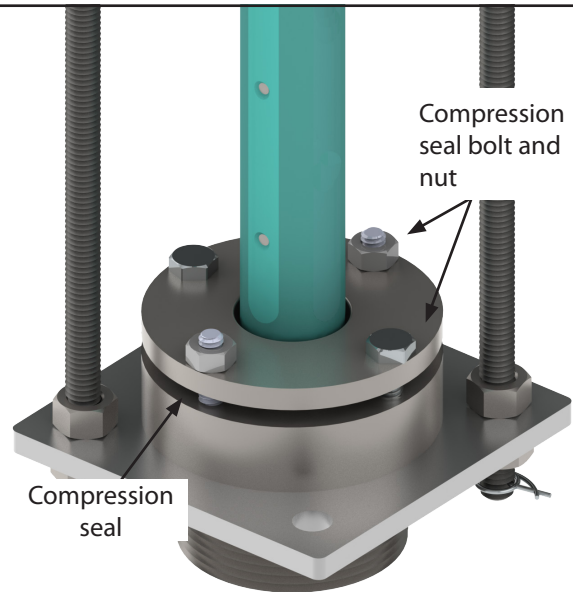

Figure 26. Compression Seal Bolts
2. Tighten the compression seal bolts and nuts just enough to stop any leaking from the seal. See Figure 26.